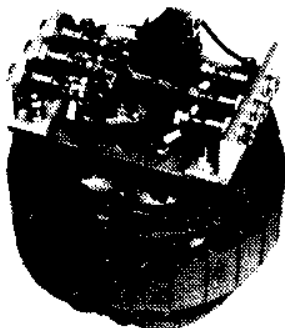

FIGURE 6-33
1. Clean dust and dirt from the exciter armature and rectifier assembly. (Figure 6-33.) (See section 5.)